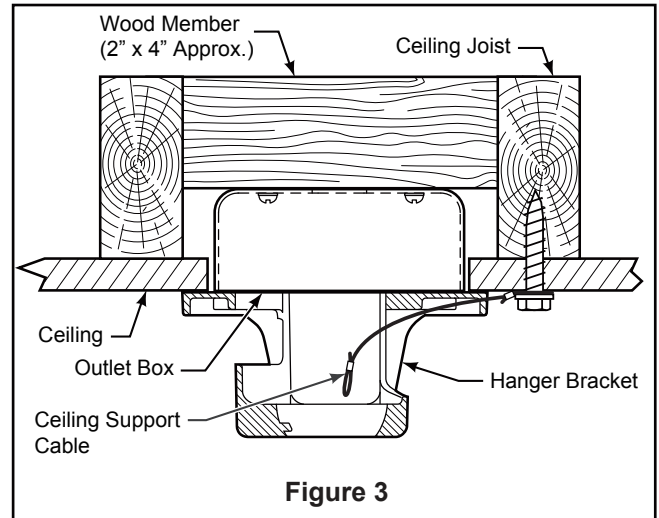

Figure 3
- 3. Assemble the upper housing to the motor assembly using the previously removed screws. (Figure 3)
- 3. Route red, gray and yellow wires and safety cable through the downrod. (Figure 3)
1. Securely attach the hanger bracket to the outlet box using the outlet box screws and washers supplied with the outlet box. (Figure 3)
2. Drill a 1/4" pilot hole into the building structure to prevent splitting or cracking with installation of the lag bolt. Using the 3/8" x 2" lag bolt and flat washer, attach safety cable to ceiling joist or wood structural member. The lag bolt will pass through the flat washer, safety cable loop, and into the building structure. (Figure 3)
NOTE: Ceiling support cable cannot be secured to outlet box only, it must be directly secured to ceiling joist or structural member using the 3/8" x 2" lag bolt and flat washer. (Figure 3)
2. Slide the receiver into the hanger bracket before wiring as shown in figure 3.